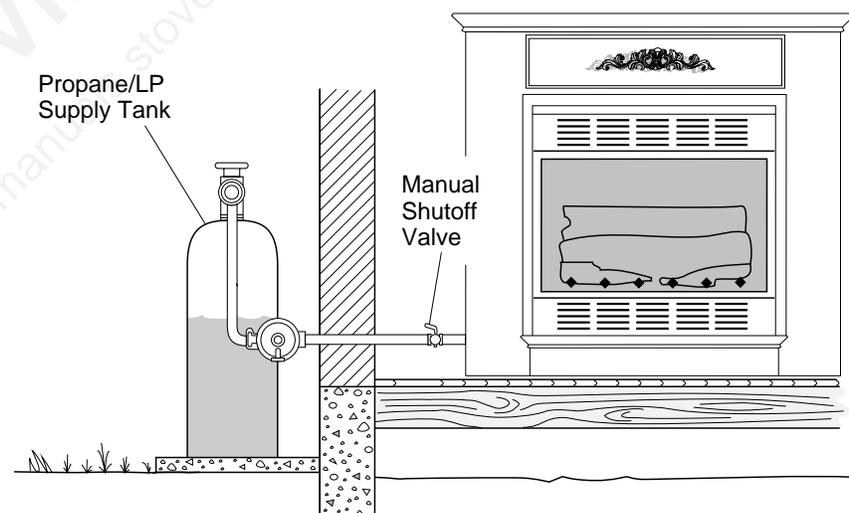

Figure 21 - Checking Gas Joints Shown with Optional Mantel
3. Check all joints from propane/LP supply tank to manual shutoff valve (see Figure 21). Apply mixture of liquid soap and water to gas joints. Bubbles forming show a leak.
4. Check all joints from manual shutoff valve to thermostat gas valve (see Figure 21). Apply mixture of liquid soap and water to gas joints. Bubbles forming show a leak.